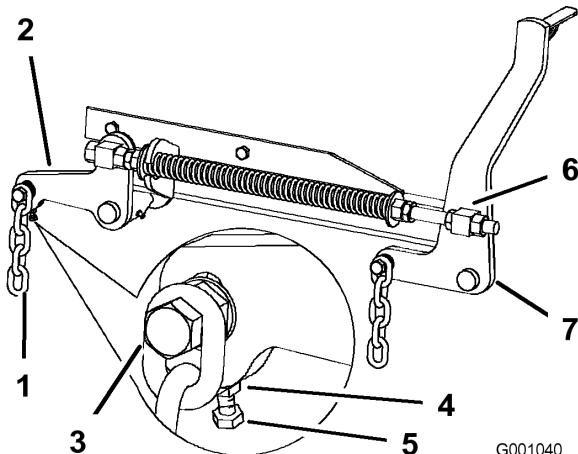

Figure 68
7. If the measurements at positions **B** or **C** are not correct, loosen the bolt attaching the rear chain to the rear support arm (Figure 68).
8. Loosen the jam nut under the rear support arm and adjust the adjustment bolt to get a measurement of 3-1/8 to 3-1/4 inches (Figure 68).
7. Loosen the front swivel jam nuts, at the front of the right and left swivels, approximately a 1/2 inch (13 mm) (Figure 68).
8. Adjust the lift nuts on both the left and the right side of the machine to achieve 1/4 to 3/8 inch (6 to 10 mm) lower in front at **A** than in the rear at **B** (Figure 68).